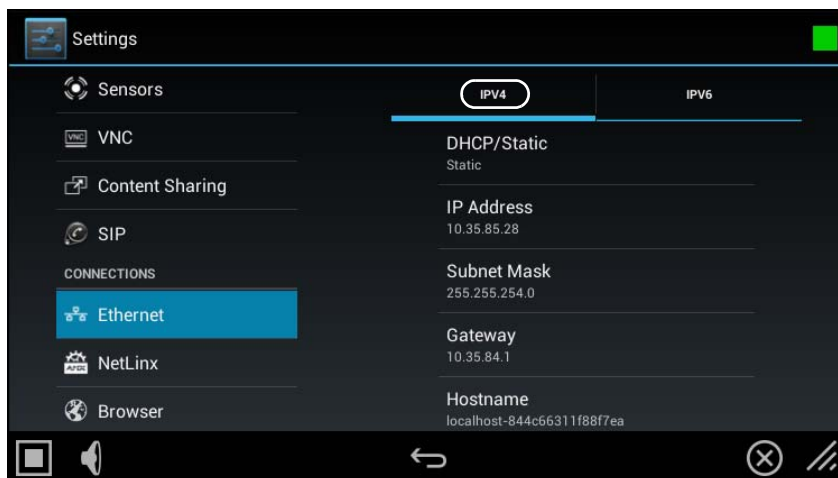

FIG. 55 Ethernet page (IPV4 tab) - indicating Static IP connection information
5. When complete, press **OK** to save changes and return to the *Ethernet* page - *IPV4* tab (FIG. 55):